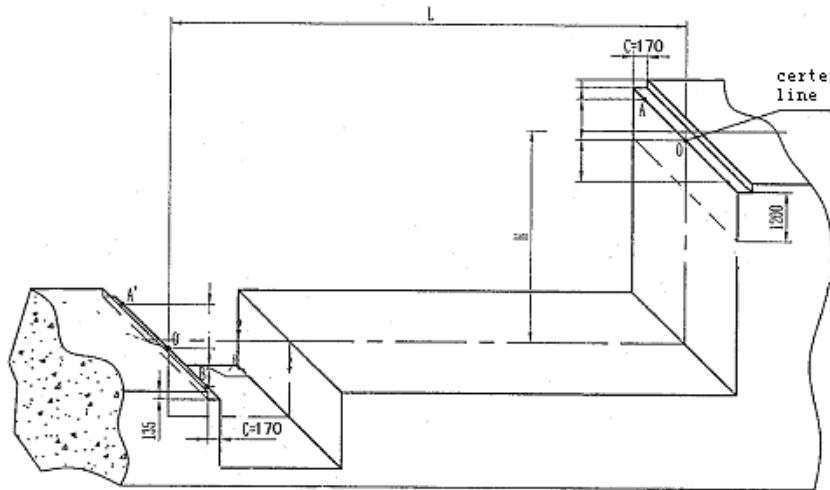

Figure 2 Recheck of builder's work for the escalator
Refer to Figure 2.
2.4 Over the distance dimension between the upper and lower supporting beams, find installation center for the whole escalator O, O' , mark it, and mark A, B and A', B' on the upper and lower supporting beams (escalator width/2). Measure horizontal distance L between the two ends and the center to make sure that all of them should meet the requirement. In addition, stair width 170mm for the upper and lower supporting beams shall also meet the dimensional requirement in the general layout drawing so as to ensure consistency in horizontal distance of the width during installation. The permissible tolerance shall be smaller than that in the layout drawing. Refer to Figure 2.